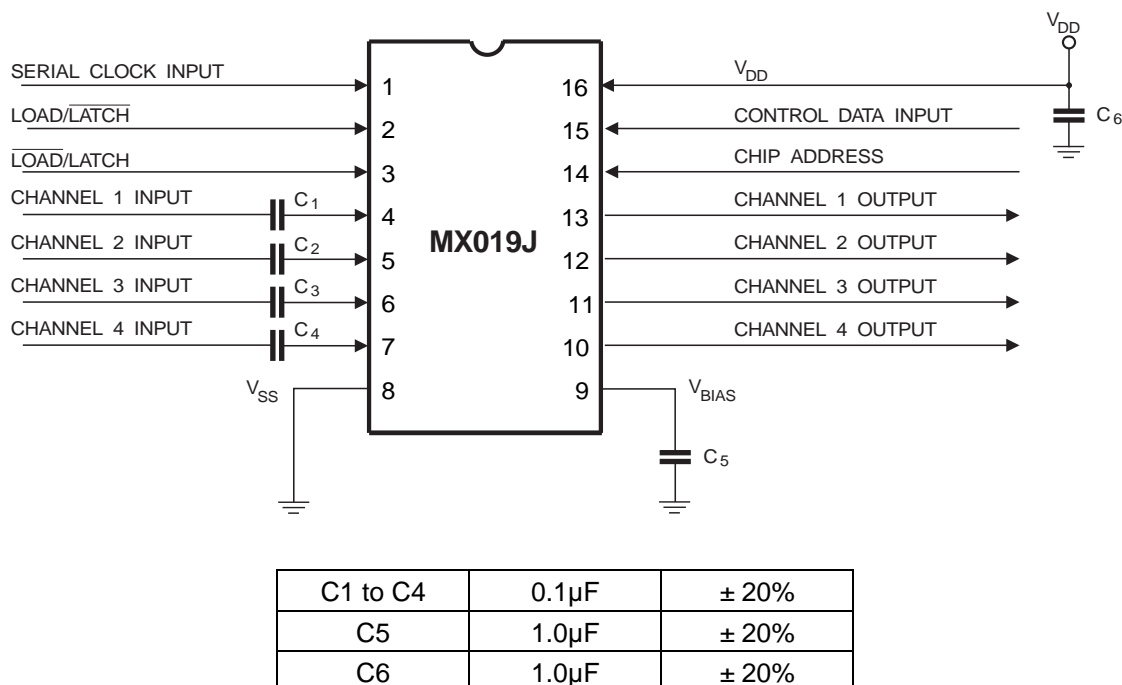

Figure 2: Recommended External Components
3. All external components (Figure 2) should be kept close to the MX019 package.